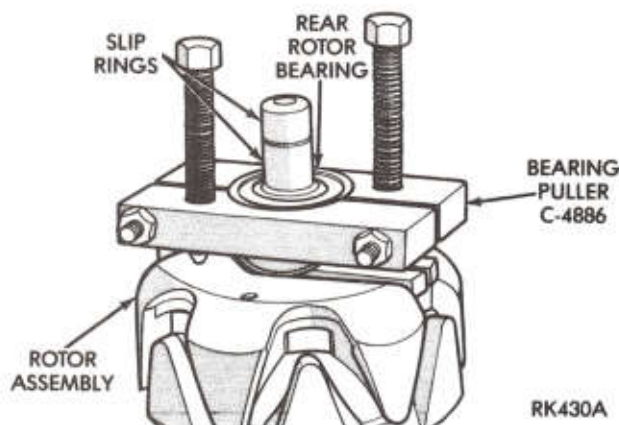

Fig. 14—Remove Rectifier End Bearing
- (12) Using tool C-4886, remove the rectifier end bearing (Fig. 14). To install the rectifier end bearing,